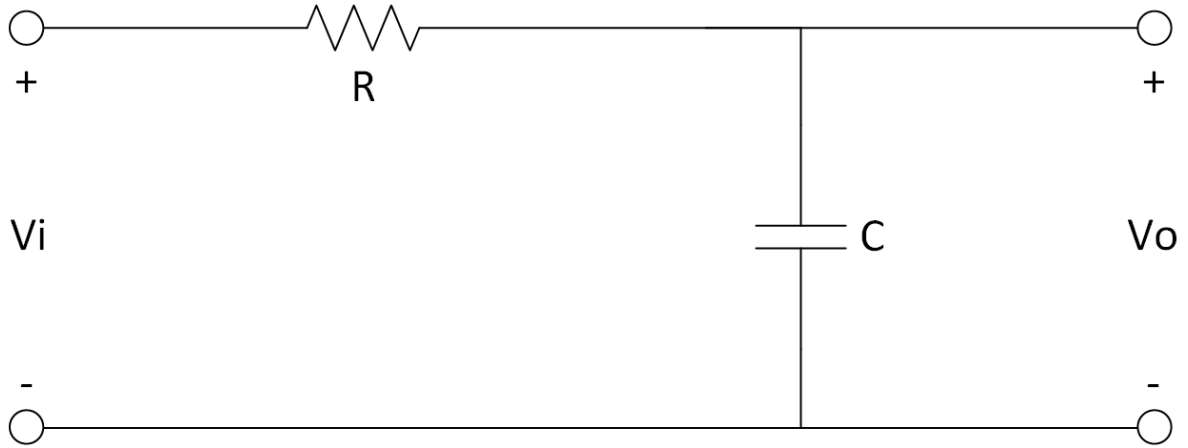

Figure 7.1
1. For Fig. 7.1, do your theoretical calculations and roughly sketch the frequency response ($|H(j\omega)|$) and phase ($\angle(j\omega)$). Compare your theoretical and simulated results, and comment on differences.
1. Build the circuit given in Fig.7.1. ($R=1k\Omega$, $C=10nF$) Set the peak-to-peak voltage of the input as $V_{p-p}=1V$ and measure V_o and phase at frequencies given in Table 1. Find the cut-off frequency for the filter. Fill the table and sketch the frequency response (in dB) and phase.